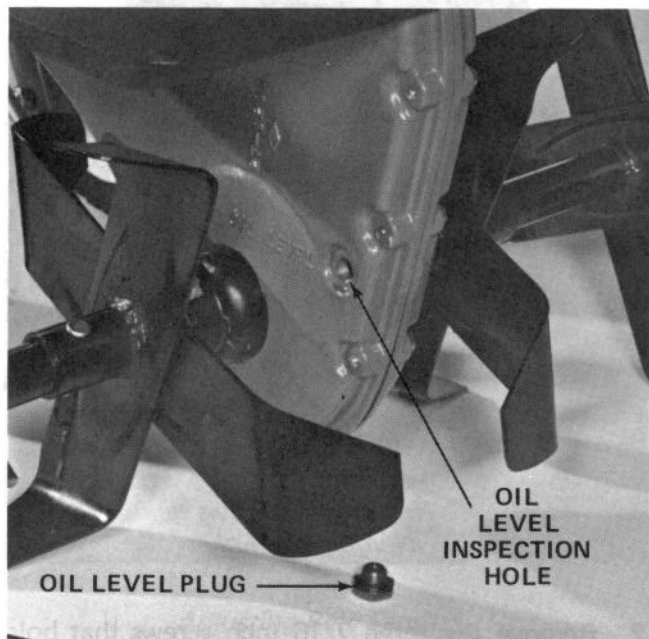

Figure 23
3. Remove oil level plug (Fig. 23).